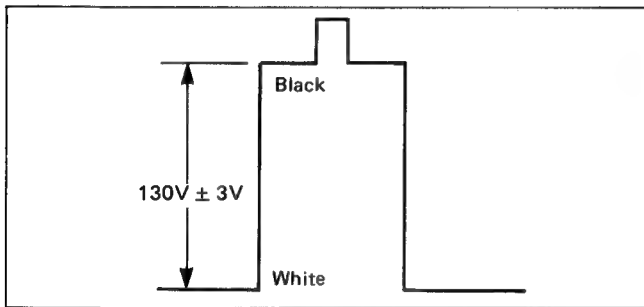

Fig. 26
- Adjust G-Drive control VR (R1801) to achieve $130V \pm 3V$ as shown in Fig. 26.